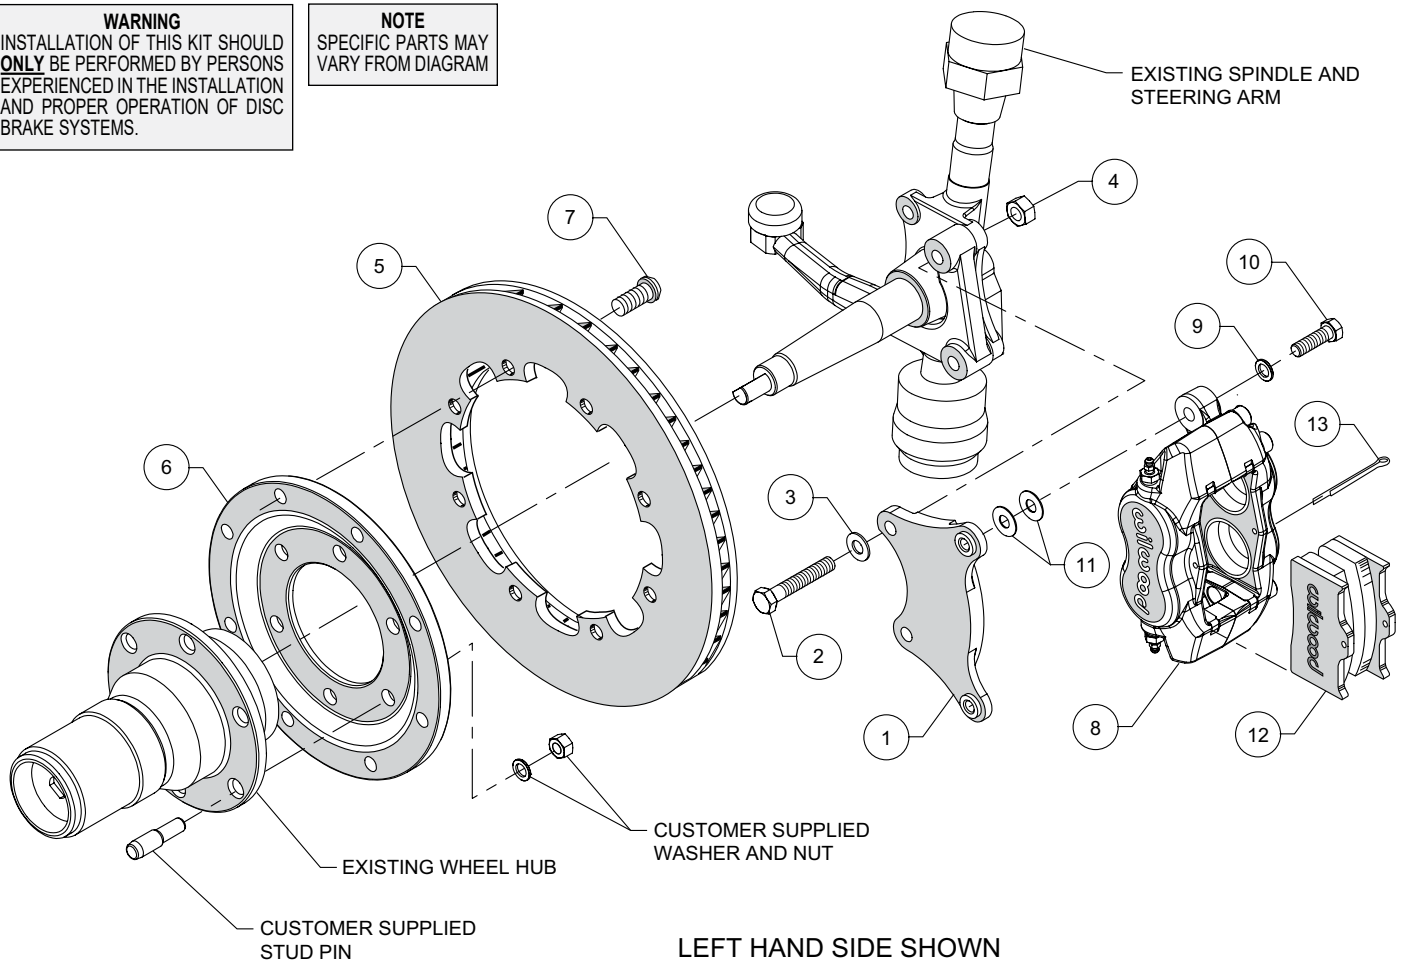
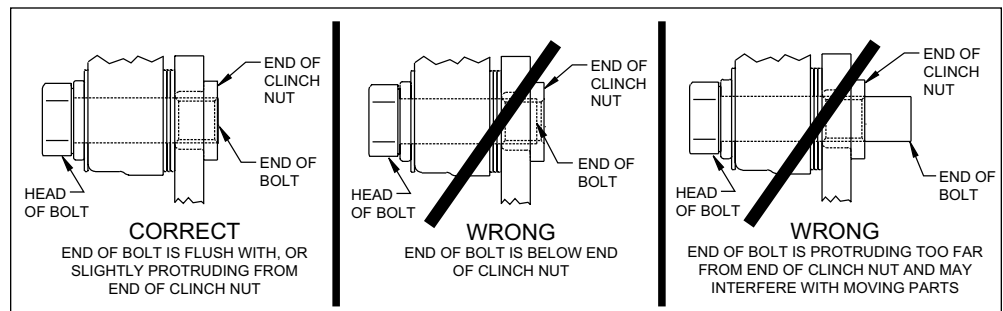

Figure 1. Typical Installation Configuration
Figure 4. Clinch Nut Engagement Diagram
NOTE: Numbers in parenthesis refer to the parts list and Figure 1 on the preceding pages.
CAUTION: All mounting bolts must fully engage clinch nuts. Be sure to check that all bolts are either flush or protruding through flanged side of clinch nut after shimming, Figure 4.
- Orient the caliper mount bracket (1) as shown in Figure 1 and install using bolts (2), washers (3) and nuts (4). Ensure that the flanged heads of the clinch nuts in the bracket are facing outboard, Figure 1. Temporarily tighten the mounting bolts. **NOTE:** The bracket must fit squarely against the mount bosses on the upright. Inspect for interference from casting irregularities, machining ridges, burrs, etc. Once proper fitment is confirmed, torque nuts to 30 ft-lb.
- Orient the rotor (5) and the rotor adapter (6) as shown in Figure 1 and Photo 1. Attach the rotor to the adapter using bolts (7). Apply red *Loctite*® 271 to the bolt threads and torque to 25 ft-lb using a criss-cross pattern.
- Mount the adapter/rotor assembly (5/6) to the hub (customer supplied) using stud pin, washer and nut (all customer supplied), as shown in Figure 1. Apply red *Loctite*® 271 to the bolt threads and torque nuts to manufacturer's specifications using a criss-cross pattern.
- NOTE:** Please reference the caution statement at the beginning of the assembly instructions. Mount the caliper (8) onto the caliper mounting bracket (1) using bolts (10) and washers (9), as shown in Figure 1. Initially place two .035" thick shims (11) on each bolt between the caliper and the bracket, Photo 2. Temporarily tighten the mounting bolts and view the rotor (5) through the top opening of the caliper. The rotor should be centered in the caliper, Photo 3. If not, adjust by adding or subtracting shims between the bracket and the caliper. Always use the same amount of shims on each of the two mounting bolts. **NOTE:** The end of each bolt must be flush with or slightly protruding from the head of the clinch nut, as shown in Figure 4. If necessary place spare shims between washer (9) and caliper mounting ear to achieve the proper clinch nut engagement. Once the caliper alignment and clinch nut engagement are correct, remove the bolts one at a time, apply red *Loctite*® 271 to bolt threads, and torque to 40 ft-lb.
- Install the disc brake pads (12) into the caliper, with the friction material facing the rotor (5), and secure in place using cotter pin (13), Photo 4.